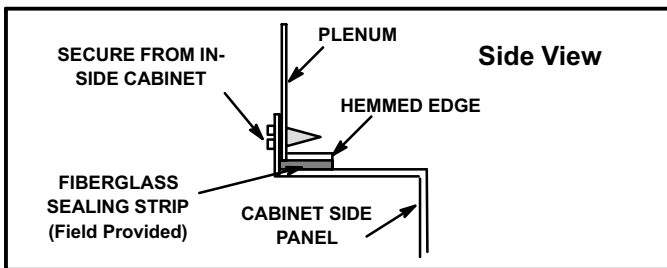

FIGURE 10
- 4 - In closet installations, it may be impossible to install sheet metal screws from the outside. In this case, make plenum with a removable front and install screws from the inside (See figure 10).